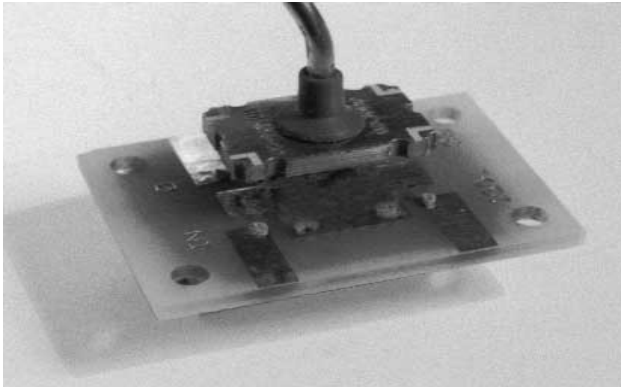

Figure 5 - Component Placement
**Coupler Positioning:** The surface mount coupler can be placed manually or with automatic pick and place mechanisms. Couplers should be placed onto wet paste with a slight uniform pressure to insure good even adhesion into the paste as shown in Figure 5. When automated pick and place equipment is utilized and vacuum is the holding source, the vacuum source should supply 25" Hg with at least a .060" vacuum mechanism. Parts weigh approximately between 0.3 and 1.3 grams.